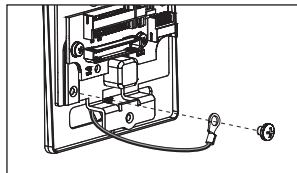
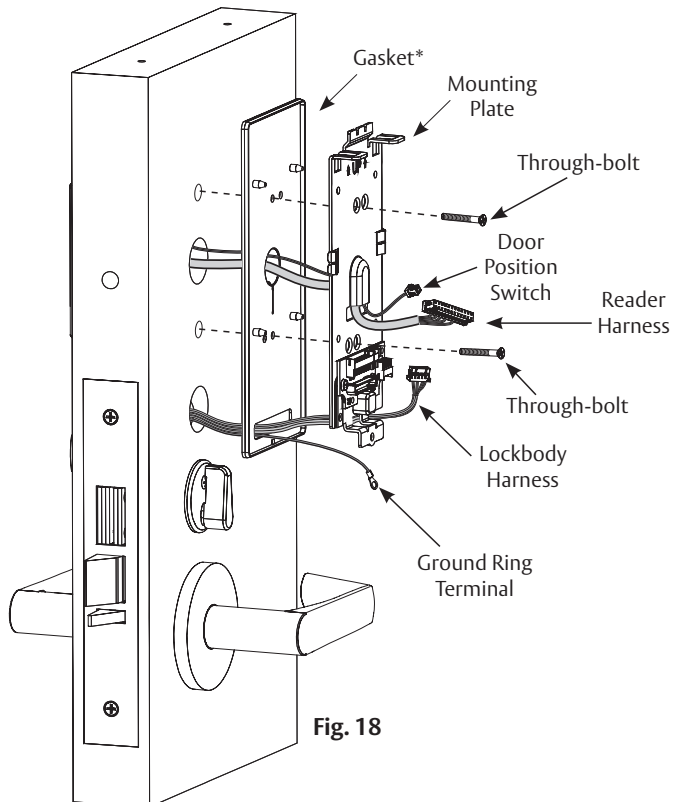

Fig. 19
Fig. 18
- Feed reader harness and DPS connectors through inside mounting assembly and gasket if required*. (Figure 18)
IMPORTANT: Do not run wires through bottom flange hole in plate - it will damage wires and controller connector. (Figure 18, Figure 19) Route wires around flange. (Figure 19)
- Begin to secure mounting assembly by partially tightening two (2) through-bolts on inside of door while ensuring proper alignment as reader is secured. (Figure 18)
- Secure ground lug with #6-32 machine screw. (Figure 19)
- If installing with gasket, separate gasket from mounting plate to feed cables/connectors through holes as indicated (Figure 18)